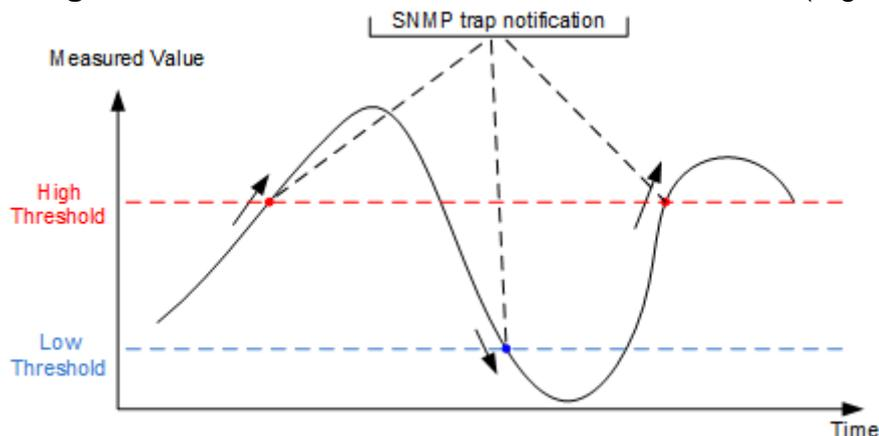

Figure 7.21. Sending traps with Traps Sending=Edge Triggered
- If **Traps Sending** parameter from web page SNMP Traps Settings is set to "Edge Triggered" a single trap is sent when measured value crosses over the **High Threshold** or below the **Low Threshold** values (Fig. 7.21).